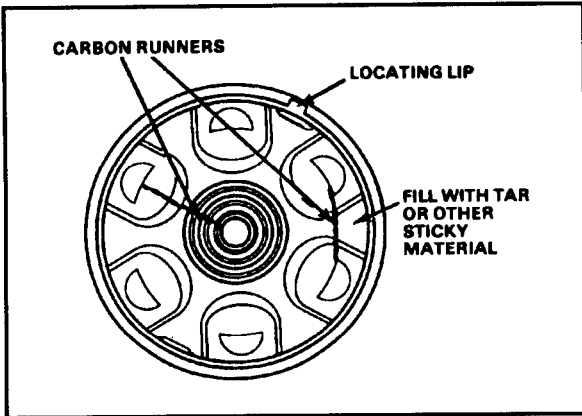

FIGURE 22-15. Shorted Distributor Cap Repair.
**Shorted Distributor Cap.** A cracked distributor cap will cause your engine to miss and backfire, particularly in damp weather when the crack is filled with moisture. To correct this, carefully clean and dry the distributor cap, scrape the crack or runner, and fill the crack with tar or other sticky material (Figure 22-15).